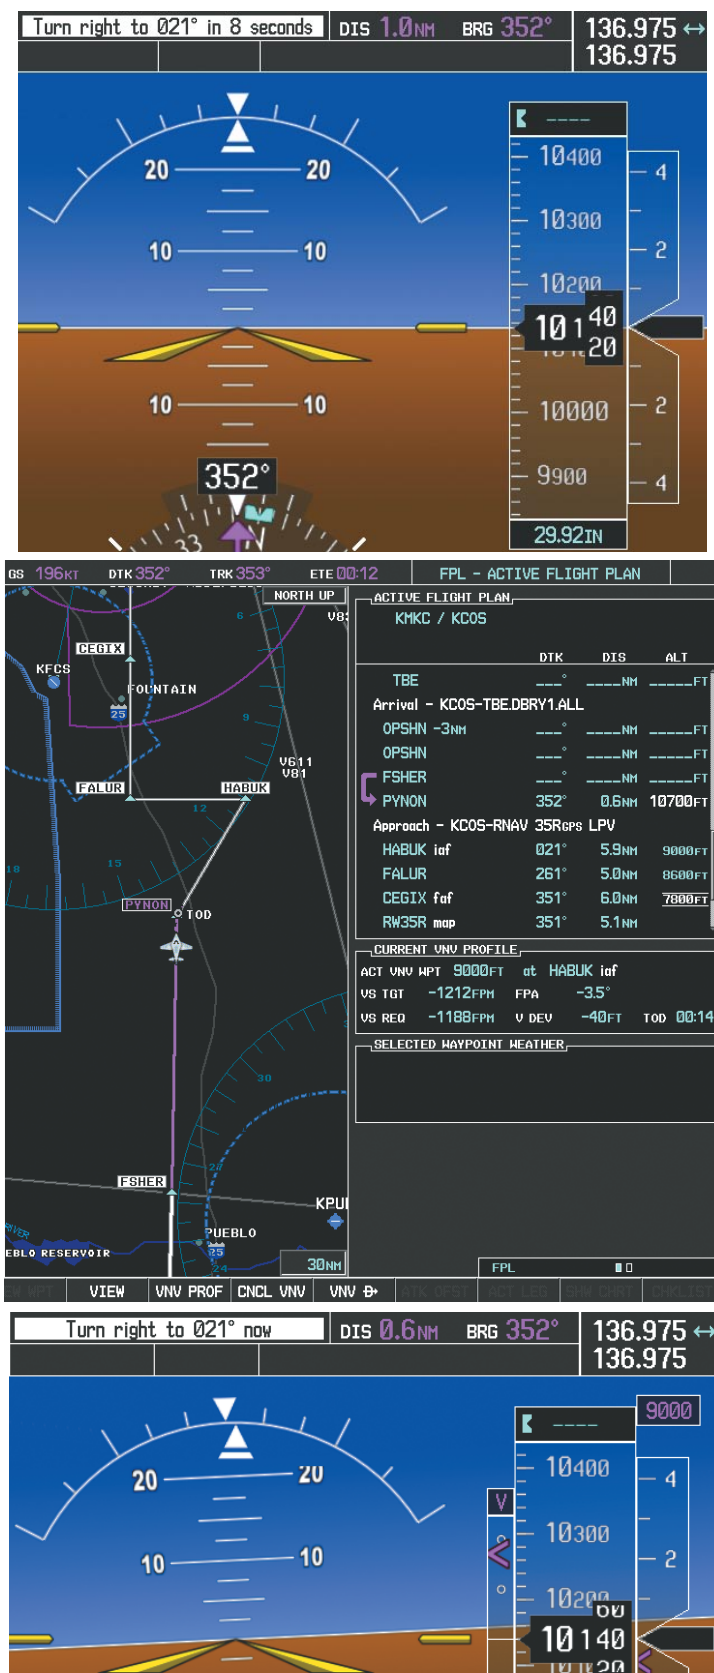

Figure 5-138 Approaching PYNON
- 20) The flight continues through the arrival procedure to PYNON (see Figure 5-138). At a point 31 nm from the destination airport, the phase of flight scaling for the CDI changes to Terminal Mode and is annunciated by displaying 'TERM' on the HSI.